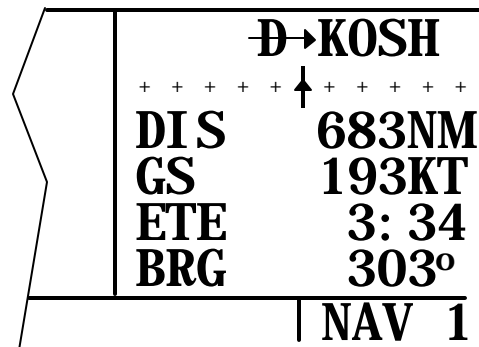

Figure 3D-9. NAV 1 Page (Direct To Operation)
7. Press the **ENT** button again to approve the displayed waypoint page. The right side will display the NAV 1 page, Figure 3D-9, and the left side will return to page that was displayed prior to pressing the **→D** button. If the direct to was started while the NAV 1 page was shown on the left side, the left and right pages will revert to the pages that were shown before the direct to was started. The selected waypoint is now the active direct to waypoint.